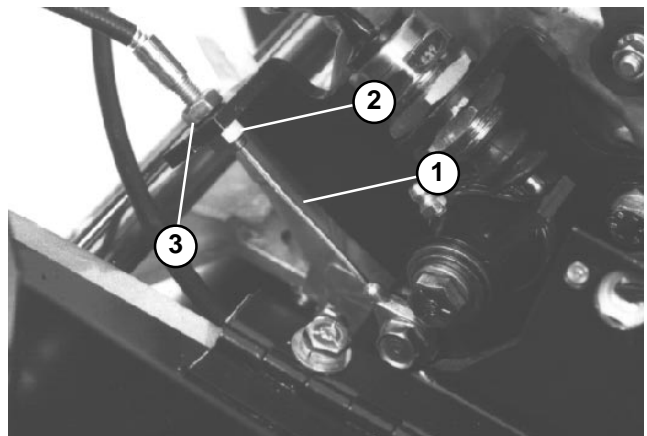

Figure 3
4. To increase cable tension, loosen front cable jam nut and tighten back cable jam nut (Fig. 3) until a force of 7 to 9 lbs (31 to 40 N) is required to engage clutch control. The force should be measured at the control knob.